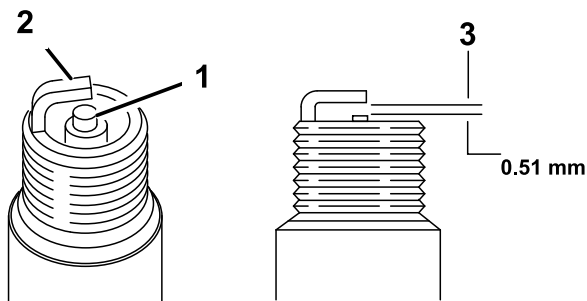

Figure 22
5. Set the gap on the new plug to 0.51 mm as shown in Figure 22.